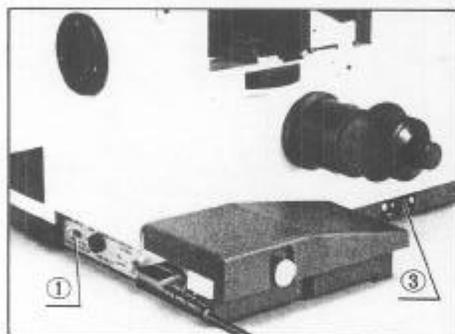

Fig. 18
① Switching on the Light Source
- 1) Ascertain that the line voltage selector switch ① located at the back of the microscope stand is set to conform with the local mains voltage. (Fig. 18) If not, adjust correctly by means of a small screwdriver.
- 2) Make sure that the sliding voltage control lever ② is set at the closest position to the operator (low voltage), then turn on the power switch ③. (Figs. 18 & 19)